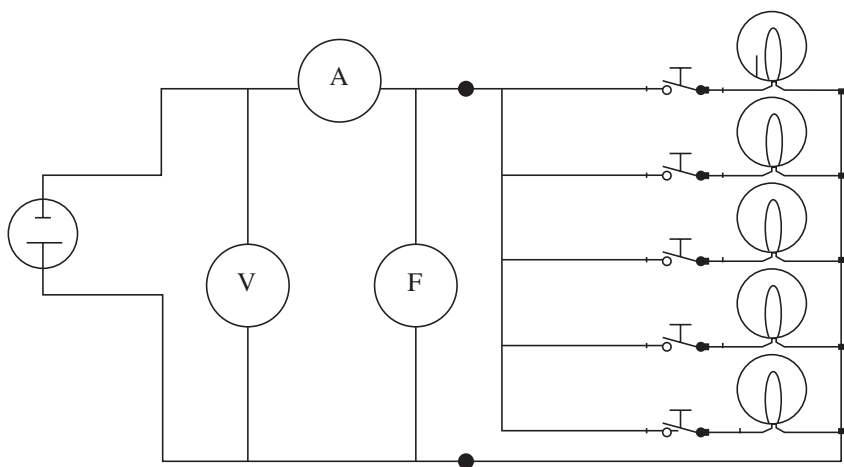

FIG. 3-9 A load center consists of purely resistive loads that, in this example, are in the form of incandescent lamps.
- *Load center:* If generator repairs are to be more than hit or miss, some means of progressively loading the generator must be available (Fig. 3-9). Electric room and water heaters can provide the bulk of the load, with incandescent lamps taking up the slack.